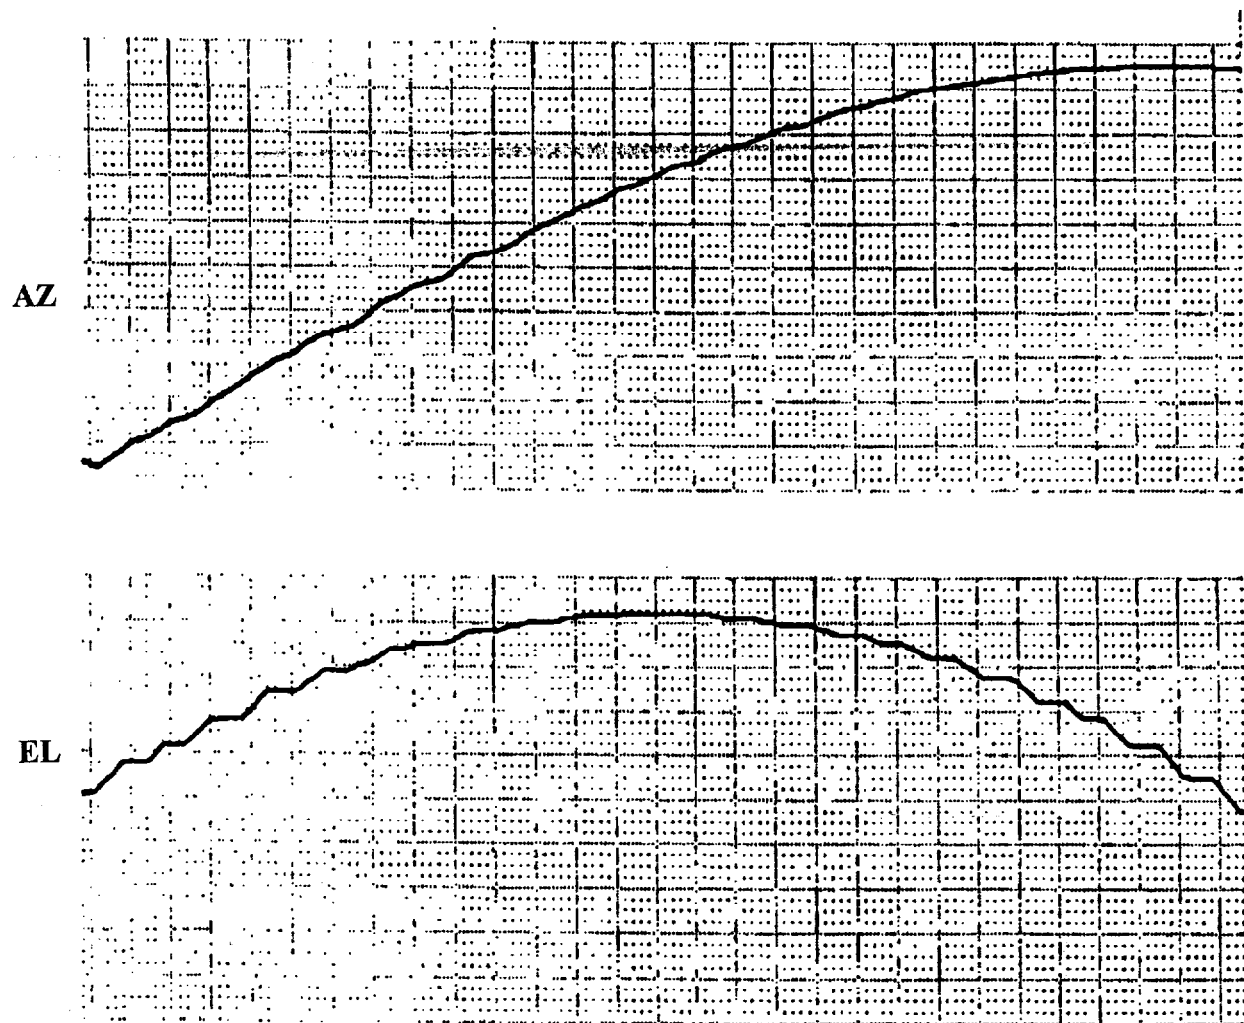

Figure 5-2 Slow Angular Change
5.5 Slow Angular Change - See figure 5-2. This trace shows an angle change of approximately 1 degree per minute and is of the right order of magnitude for assessing system behavior. However, based on the maximum recommended repeatability error (0.02 degree), the indicated dead zone of 0.1 degree is too large and calls for higher elevation servo gain. Note, even in a system such as this, an elevation servo gain setting higher than optimum would make the system unstable, and the trace would appear ragged or even oscillatory. A small amount of “stepping” (successive discrete changes in elevation angle indication) is tolerable. If the gain control were set to less than the optimum value, the magnitude of the steps would increase. The steps are, in effect, a measure of the system’s dead zone. The angular span connecting successive similar points on the trace is a measure of the dead zone.